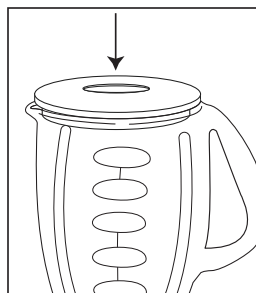

FIGURE 7
- Do not remove the lid while in use. Remove filler cap to add smaller ingredients. (*Figure 7*)